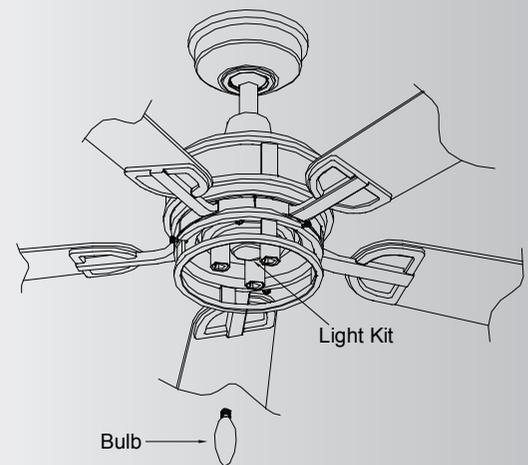

Fig. 24
**Step 1.** Install the 3, 40 Watt/B10 incandescent lamps (included). (Fig. 24)